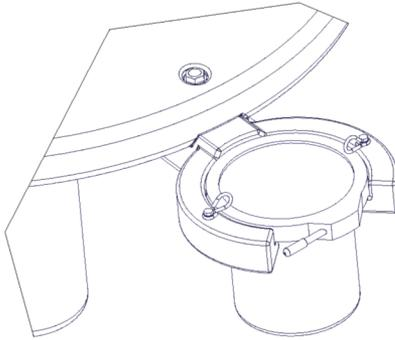

Figure 3
7. When the light housing is seated into the bracket, turn the retaining clips to ensure the housing is as shown in Figure 3.